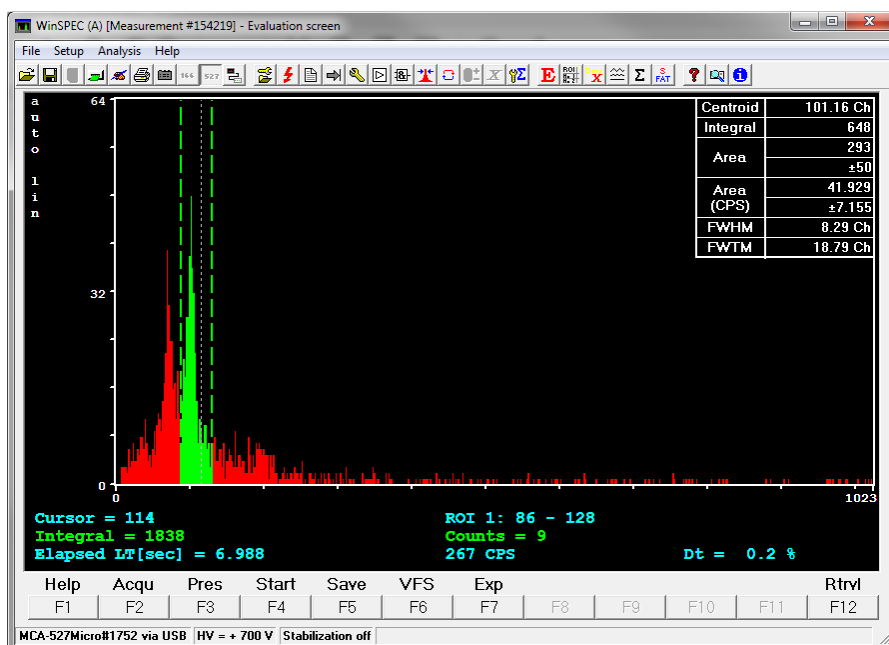

Fig. 11. Range of interest marked in green with related ROI values in the upper right corner.
- Execute the **"Setup"/"Presets ..."** menu command. The dialog allows presetting the stop condition for the measurement. If you want to use the ROI (Range of Interest) integral or area as stop condition, you must set a ROI within the spectrum diagram before (Fig. 11). To set a ROI, move the cursor (dotted line within the spectrum diagram) with the direction keys or the mouse pointer to the indented ROI begin. Press the shift key. Move the cursor to the indented ROI end. Release the shift key.